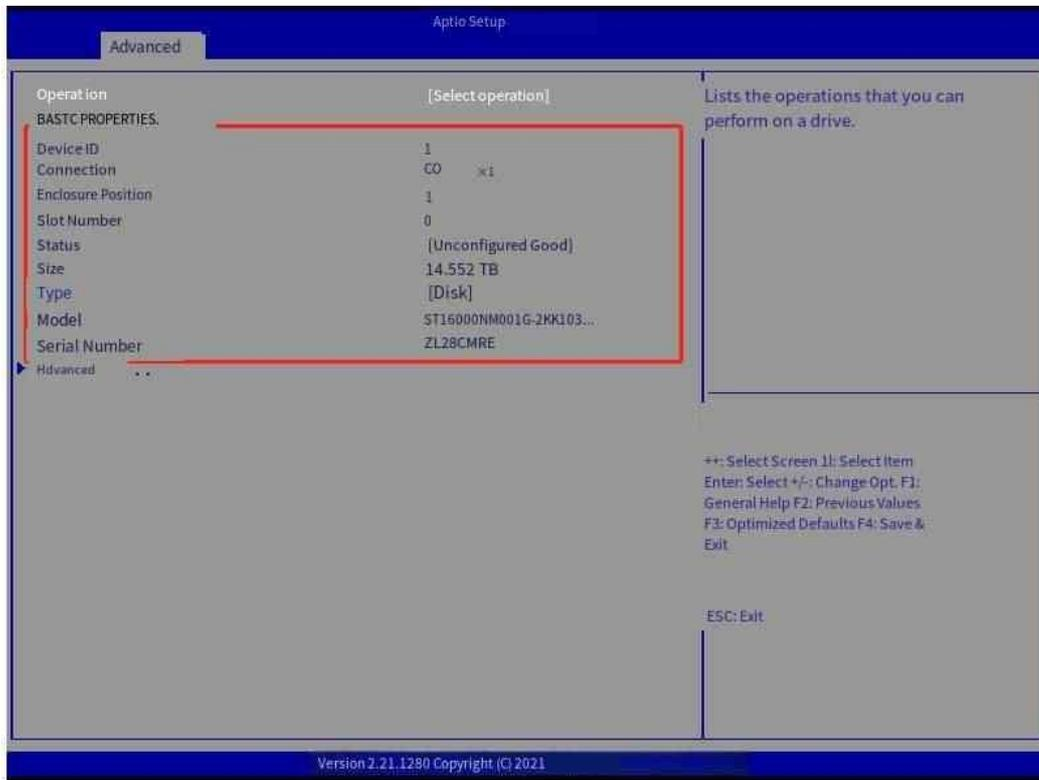

Figure 7-51 Viewing the details of a single hard drive
Step 3: Select a hard drive and press enter to view the details of a single hard drive (Figure 7-51);